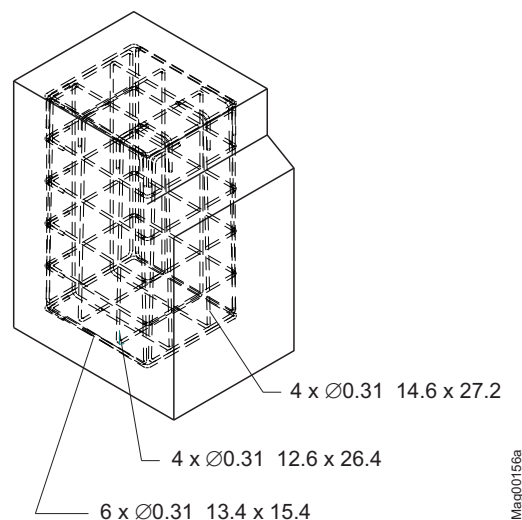

Fig. 12: Reinforcement grid
2. Place reinforcement grid pursuant to Fig. 12 in the foundation hole.